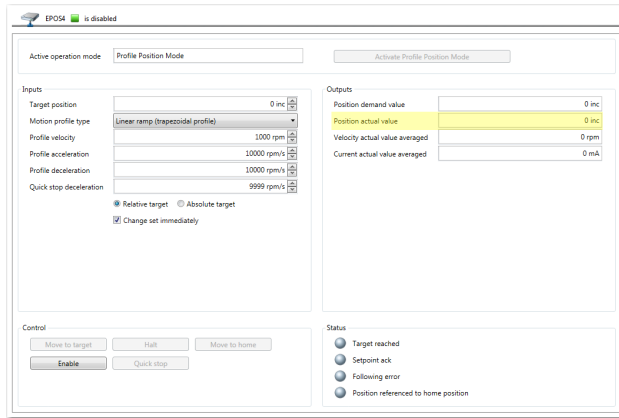

Figure 8-126 Adjustment of SSI commutation offset value | Check sense of rotation
c) The indication «Position actual value» (→Figure 8-126) must increase.